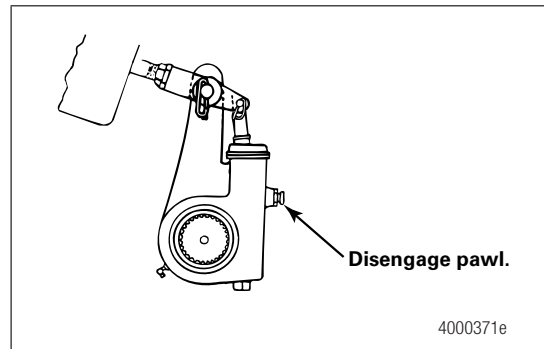

Figure 6.1
2. Use a wrench to turn the adjusting nut COUNTERCLOCKWISE until the brake shoes contact the drum. Figure 6.1. Then back off the adjusting nut in the opposite direction 1/2 turn for drum brakes or 3/4 turn for disc brakes.